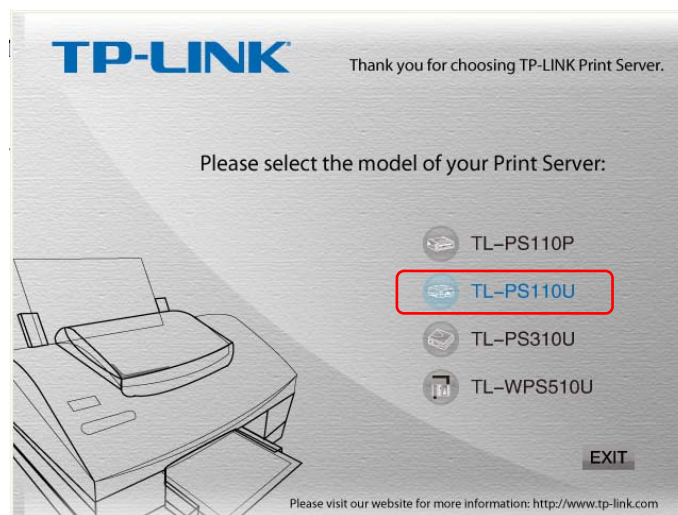

Figure 3-1
1. Insert the setup CD into your CD-drive. The autorun program will be started as shown in Figure 3-1. Select the model (**TL-PS110U**) of your print sever.